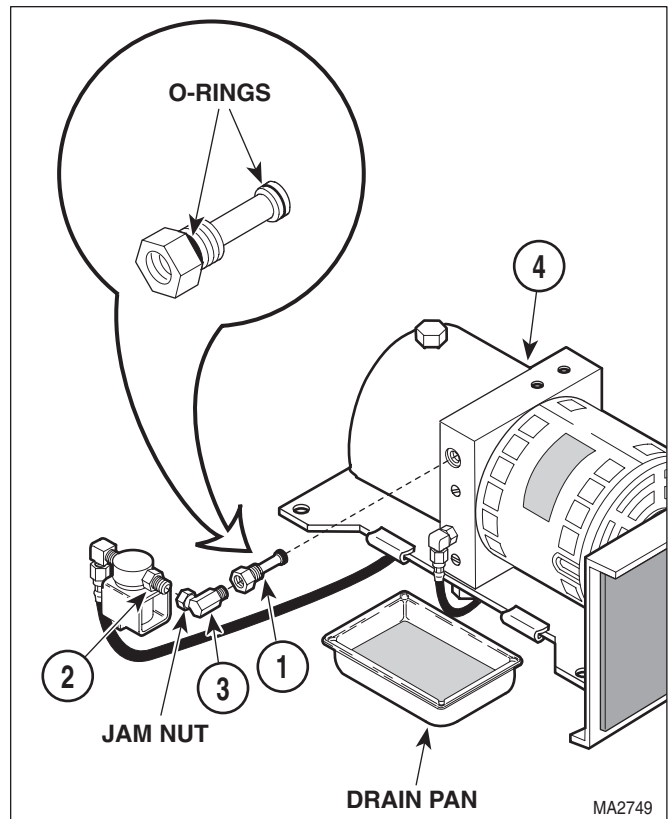

Figure 4-4. Down Functions Shuttle Valve Removal / Installation
- (3) Place rags or drain pan under down functions shuttle valve (1, Figure 4-4).
- (4) Using a wrench to hold male connector (2) stationary, loosen jam nut of elbow (3). Disconnect elbow from male connector.
- (5) Remove elbow (3) from down function shuttle valve (1).
- (6) Remove down functions shuttle valve (1) from motor pump (4).